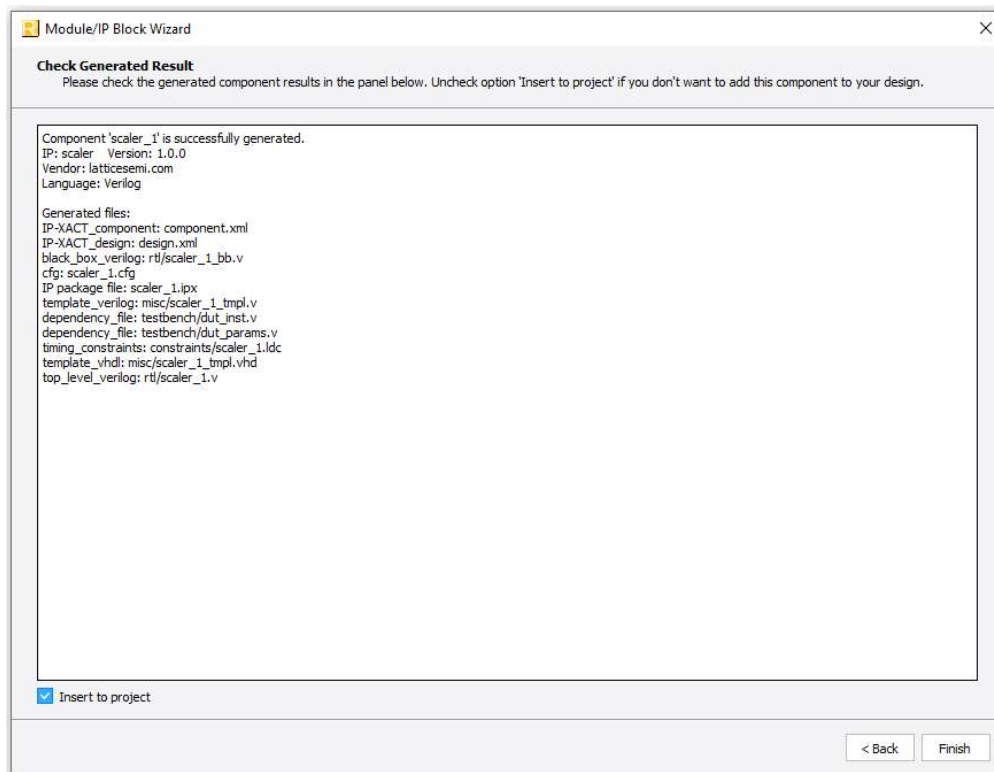

Figure 3.3. Check Generating Result
4. Click **Generate**. The **Check Generating Result** dialog box opens, showing design block messages and results as shown in Figure 3.3